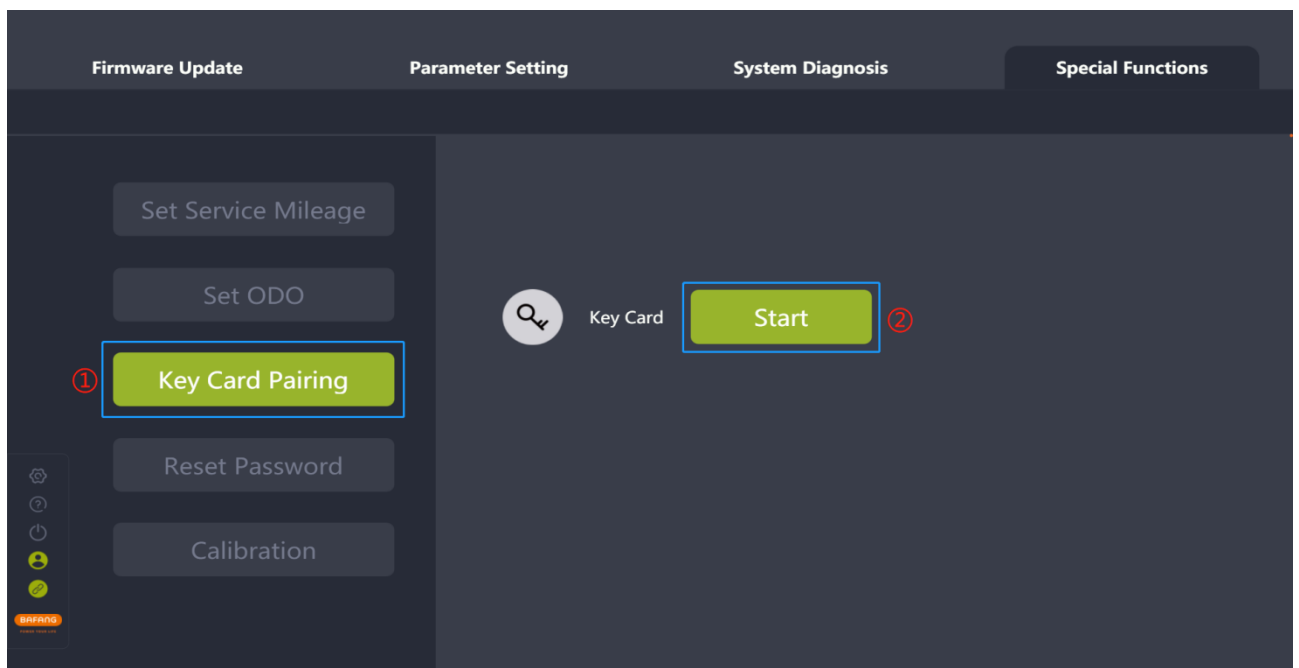

Fig. 7-3 Key card pairing
- (1) Connect the BESST Box to the display (make sure the display supports this function in advance) and select the "Key Card Pairing" icon;
- (2) Click the "Start" icon (e.g. Fig. 7-3);